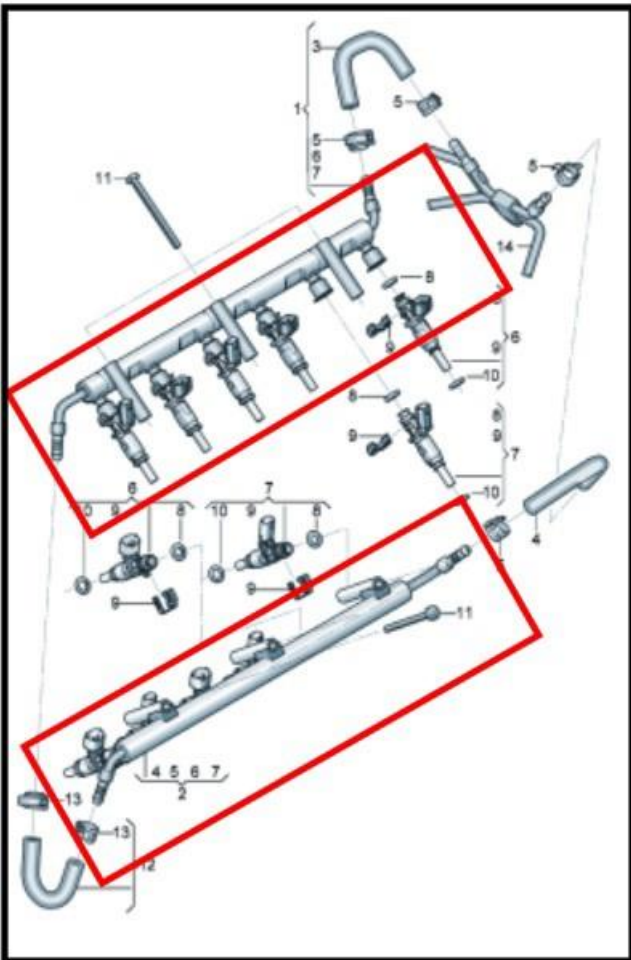

Figure 3
10. Replace both bank 1 and 2 low pressure fuel rails, the fuel rails come complete with injectors (Figure 3).